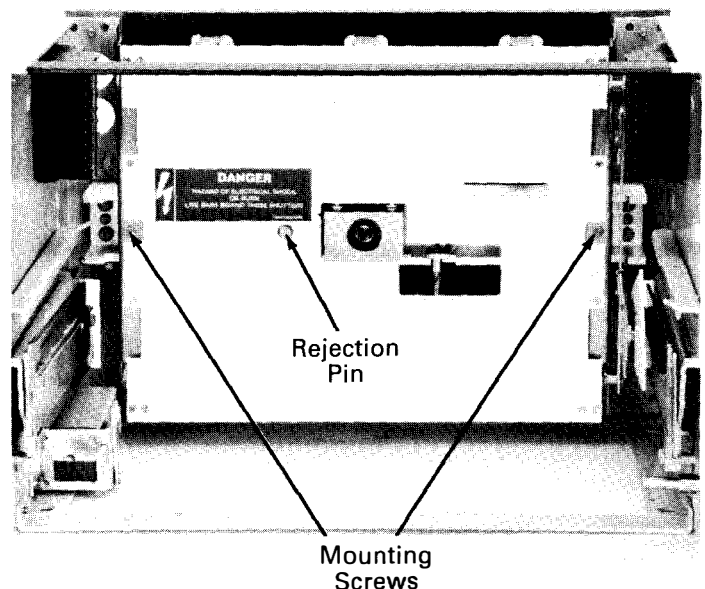

Figure 7. Closed shutters installed in 800-2000 A substructure.
1. Align the captive mounting screws, located in the middle of each shutter side frame, with the tapped holes in the nut channel, as shown in Figure 7. Tighten the screws to a torque of 27-32 in-lb.